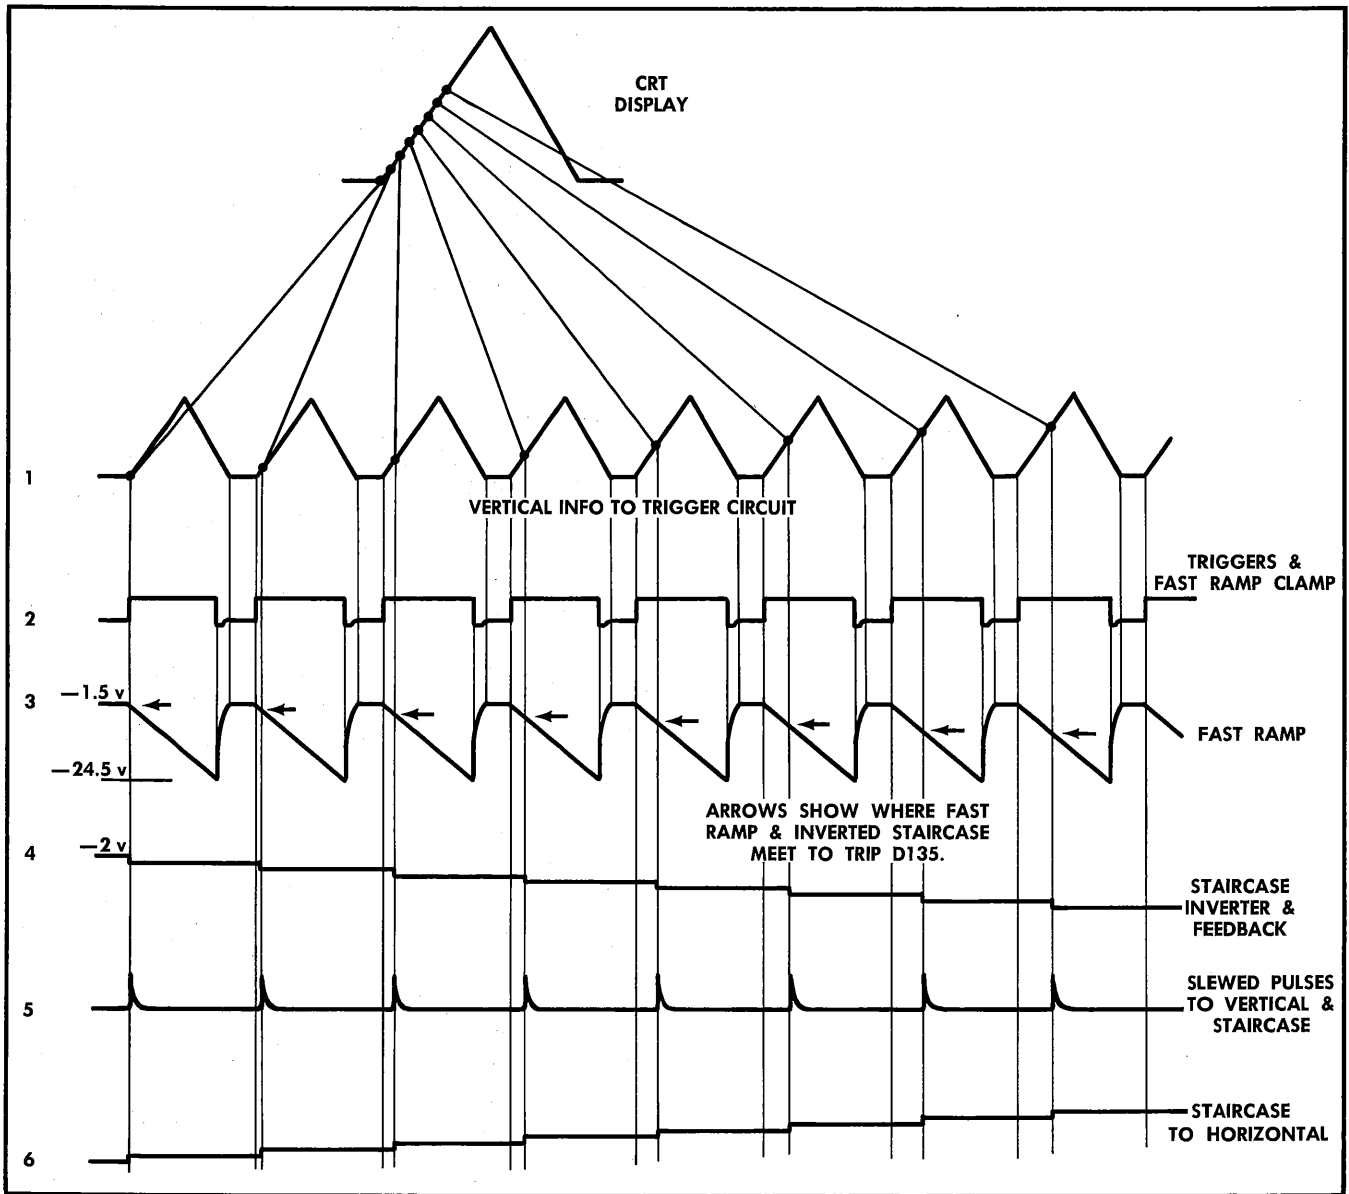

Fig. 3-8. Time correlation of display to fast ramp slewed pulses and staircase.
1. The signals out of the trigger circuit that control the fast-ramp clamp, begin at the same point on the vertical information each time the signal reaches the trigger circuit. Compare waveforms number 1 and 2 of Fig. 3-8.
2. The fast-ramp clamp waveform starts and stops the fast-ramp rundown. Compare waveforms number 2 and 3 of Fig. 3-8.
3. The fast-ramp clamp and an inverted staircase signal are both required to trip the fast-ramp comparator D135. Compare waveforms 3 and 4 of Fig. 3-8.
plug-in unit and the Type 3T4 staircase generator. Compare waveforms number 3, 4, 5 and 6 of Fig. 3-8.
Thus, Fig. 3-8 shows the time-voltage relationship between the fast ramp and the inverted staircase. The Type 3T4 TIME/DIV switch changes the amplitude of the inverted staircase to change the equivalent time between display dots. The fast-ramp rundown slope remains the same over about $\frac{1}{3}$ of the range of the TIME/DIV switch. The slope times are: about 2.2 μ sec for rundown when the TIME/DIV switch is at 0.1 μ sec through 1 nsec; about 0.22 msec for rundown when the TIME/DIV switch is at about 10 μ sec through 0.2 μ sec; and about 2.2 msec for rundown when the TIME/DIV switch is at 0.2 msec through 20 μ sec.
In operation, the staircase voltage (#4 of Fig. 3-8) is applied to pin L of the Timing card, through D132 to the anode of D131. When the fast ramp clamp is removed, the voltage across the fast ramp capacitor starts negative. When the fast ramp rundown voltage is approximately equal to the staircase voltage, D131 conducts. More of Q114 current now passes through R131 and D135, and D135 switches to its high-voltage state. The resulting slewed pulse output from D135 is coupled through T125 to D145 which functions as a one-shot multi. D145 applies a negative pulse to Q144 and causes it to turn on. The fast-rising portion of the output pulse from Q144 (#5 of Fig. 3-8) is applied to the vertical sampling plug-in and triggers the strobe generator. The slower portion of the pulse (limited in risetime by L144) is coupled to the staircase generator causing it to advance one step.
The inverted staircase voltage (#4 in Fig. 3-8) applied to the comparator in the Fast Ramp Generator is derived from the staircase ramp by the Staircase Attenuator and Inverter circuit. This circuit consists of switchable attenuator networks, a transistor used as an impedance changer, a delay operational amplifier, and an inverting operational amplifier.